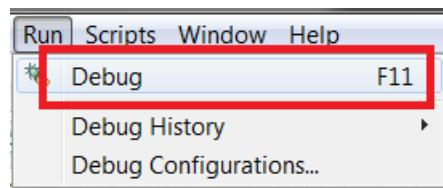

Figure 6. Debug Option
3. Download the project on the collector-launchpad. To download from the Run tab select the Debug option (see Figure 6).